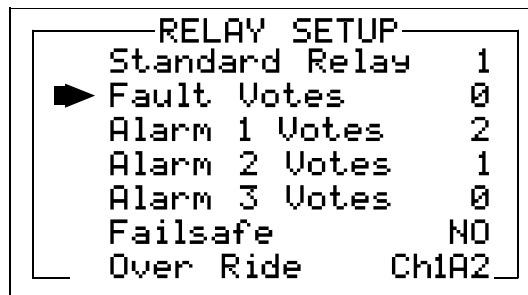

Figure 2.8
The menu shown in Figure 2.8 allows configuring of both the standard **Relay 1 & Relay 2** motherboard relays and the six optional relays on the BFT10-0222 discrete relay option PCB. Both standard and optional relays are programmed in this menu. Select the relay to be configured by pointing the arrow at the top menu item and pressing EDIT. The field will scroll through all eight possible relays (2 standard and 6 optional).
- **Fault, Alarm 1, Alarm 2, Alarm 3** menus in Figure 2.8 offers additional “voting” flexibility by controlling the channel alarm combinations that will trip the selected relay. Each *Votes* entry requires this quantity of channels, for of each type alarm be active before this relay activates. As illustrated in Figure 2.8 above, Standard Relay 1 activates when any 2 channels have Alarm 1 conditions, PLUS, any one channel has an Alarm 2 condition. And since the **Over Ride** menu (see description below) contains the **Ch1A2** entry Standard Relay 1 also activates if alarm 2 on channel 1 trips. Fault Votes and Alarm 3 Votes values are 0 therefore Fault and Alarm 3 conditions will not affect this relay. Votes follow the logical “AND” function.